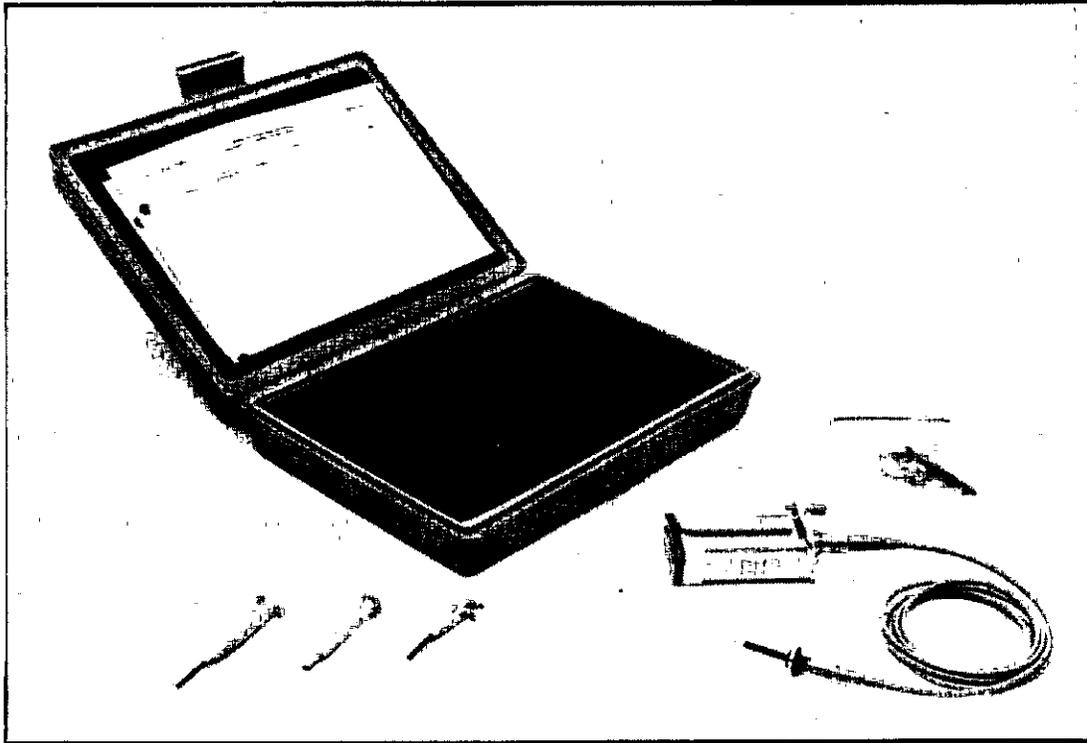

Figure 1-1. 54001A 1 GHz Miniture Active Probe
- 54001A 10 KOhm, 1 GHz miniature active probe and a 1.5M cable. (See figure 1-1.)